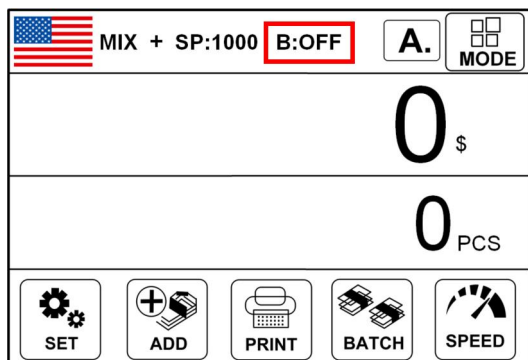
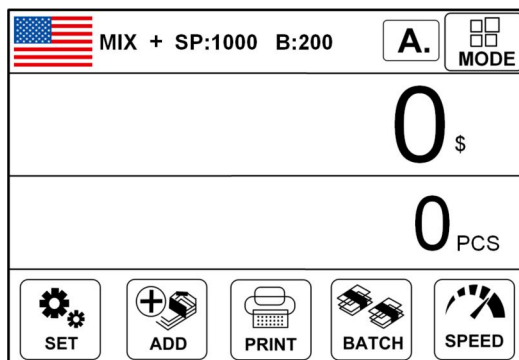
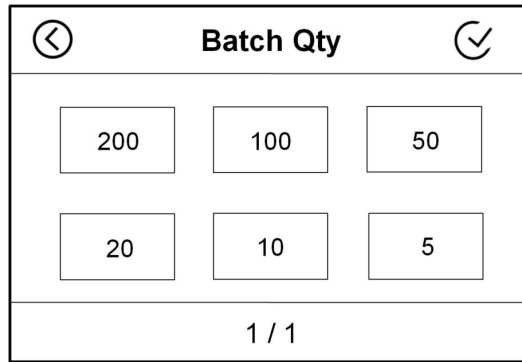

Figure 37
Figure 38
Figure 41
Press the key  or touch the key  below the display to select the Batch number in the banknote counting interface. The default is 8 options of 200/100/50/20/10/5/USER/OFF.(For example, Figure 37 is the preset turned off, and Figure 38 is the preset number 200). When the Batch function is turned off, the Batch quantity of the machine is 200. When the count reaches 200, the machine will stop running automatically.
2) Press “**Batch Qty**” under Figure 38 to enter into Batch Setting interface, as Figure 41.